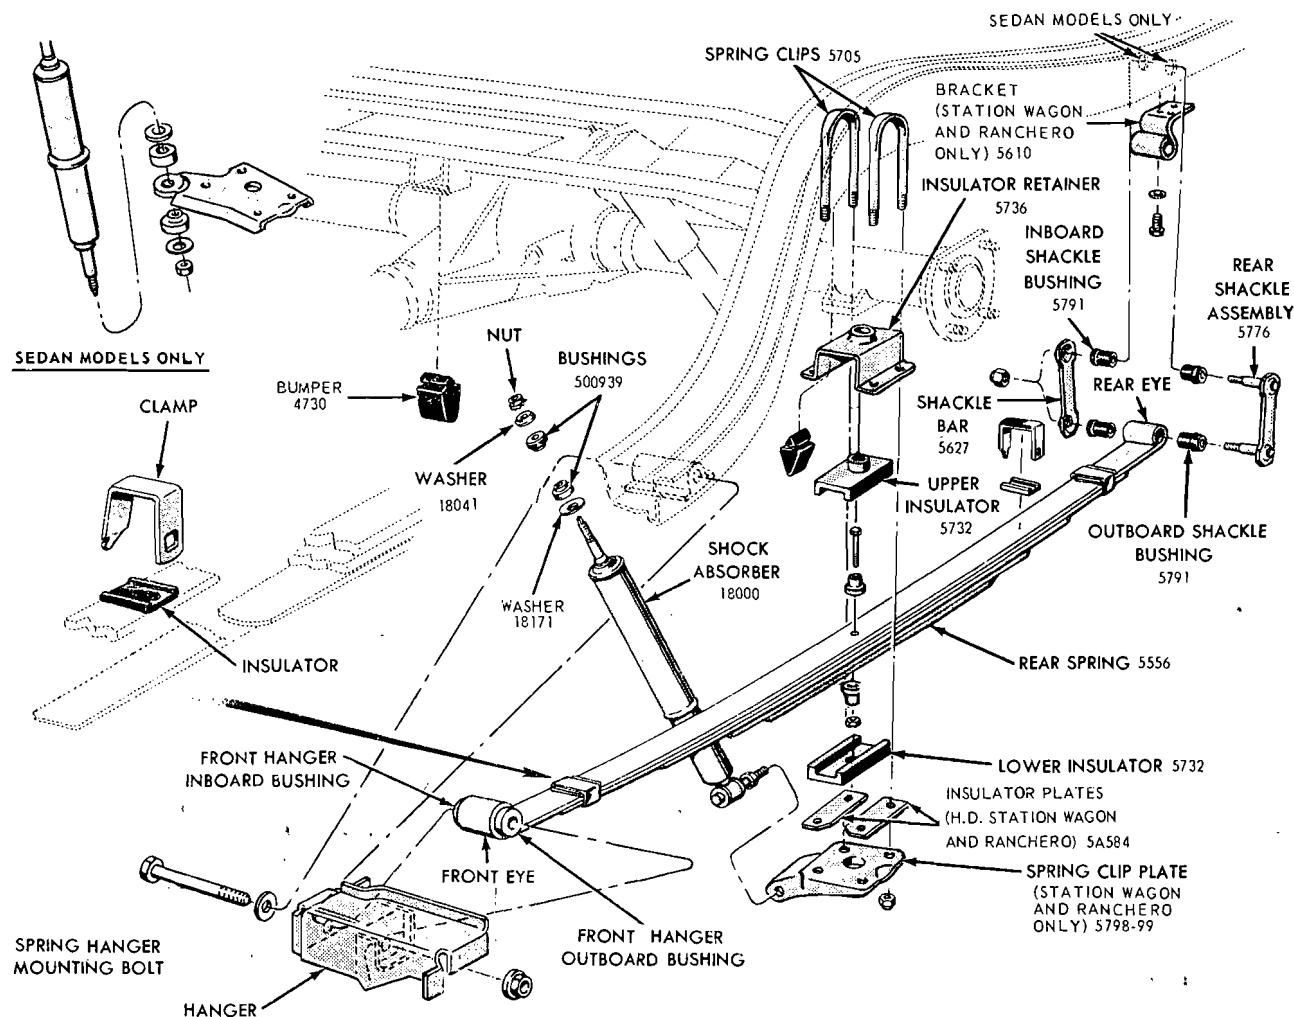

FIG. 15—Rear Spring and Shock Absorber—Typical
1. Disconnect the shock absorber from the spring clip plate (Fig. 15).
3. Raise the vehicle and remove the retaining nut, outer washer and bushing from the shock absorber at the spring clip plate (Fig. 15). Compress the shock absorber and remove it from the vehicle.
3. Connect the lower stud to the spring clip plate, and install the bushing, outer washer, and nut on the stud (Fig. 15). **Be sure the spring clip plate is free of burrs.** Tighten the nut to specification.